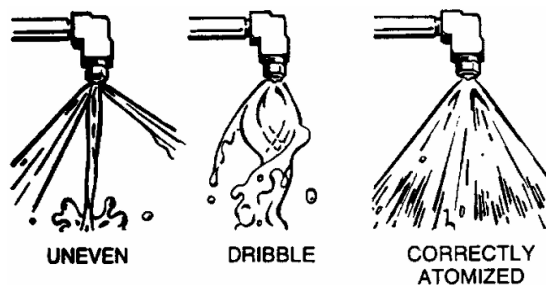

FIG. 17
7. Check the applicator jets in the head to ensure a proper solution flow. A jet that sprays uneven or that dribbles needs to be cleaned (Figure 17).